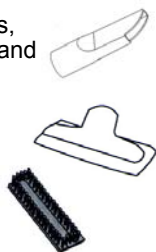

Fig. 6
- Insert the power nozzle cord plug into the power socket on the flexible hose. (Fig. 6)